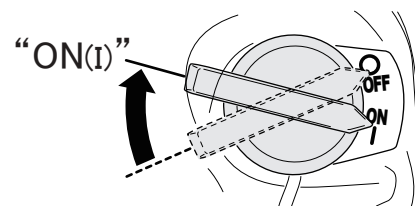

Fig.20
7. Turn on the engine switch on. (Fig.20)